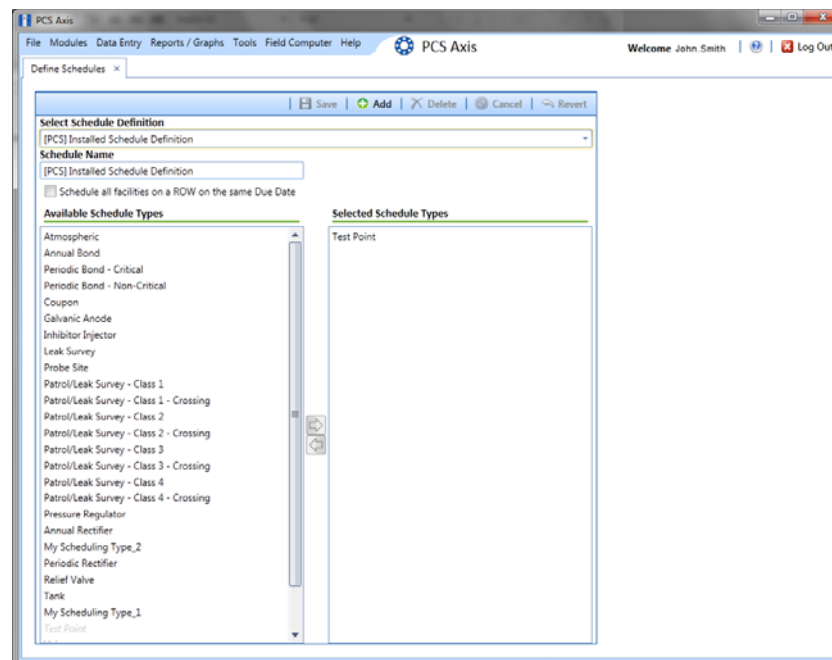

Figure 8-9. Define Schedules
- 1 Click **Data Entry > Define Schedules** to open the *Define Schedules* window (Figure 8-9).